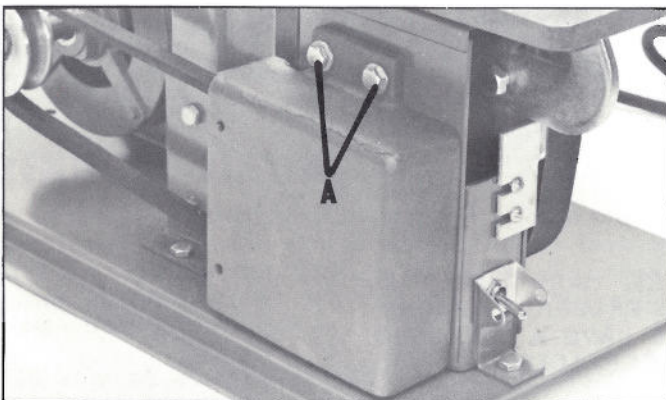

Fig. 10
If you purchased the 31-361 Arbor Pulley Guard, assemble it to the machine, as shown in Fig. 10, using the two screws, washers and hex nuts (A) supplied with the guard.